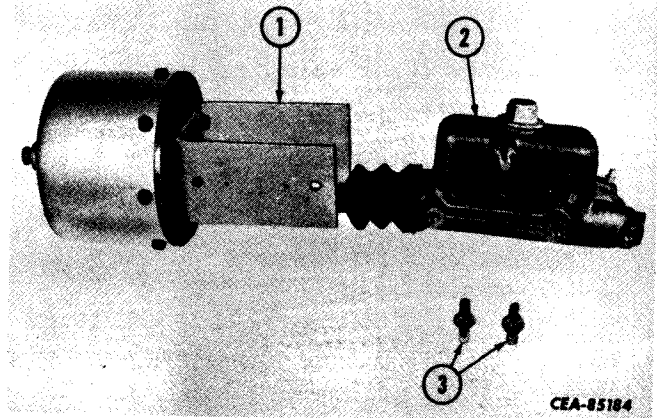

Figure 13-57
Remove the mounting studs (3, Fig. 13-57) that attach the hydraulic cylinder (2) to the bracket (1). Remove the hydraulic cylinder.